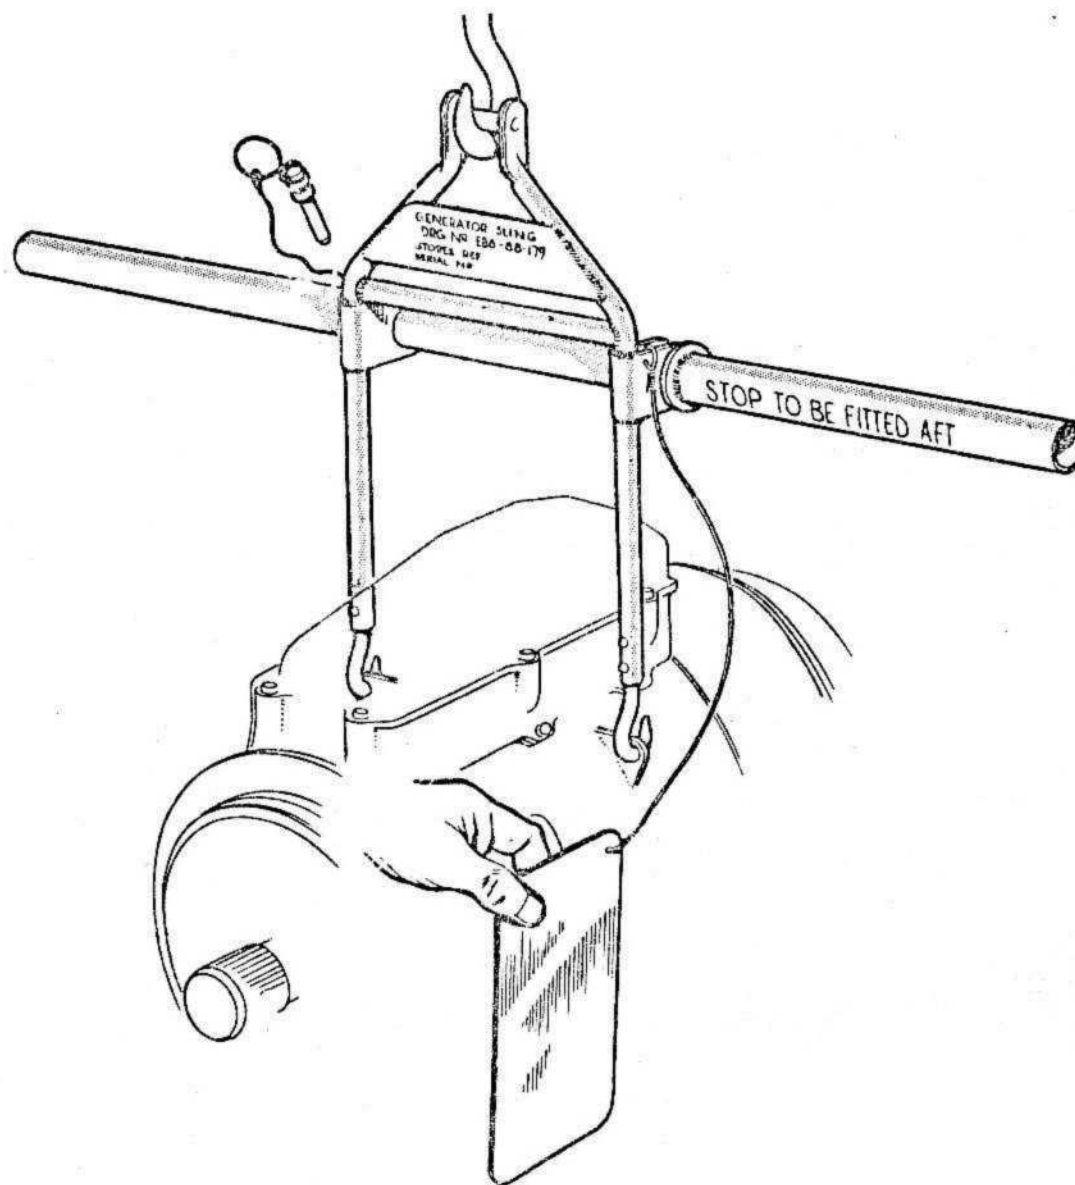

Fig.13 Generator sling
(6) Attach the hooks of the generator sling (*fig. 13*) to the generator slinging eyes (6).
(7) Remove the undersurface access panel, release the manacle clamp (7) and lift the generator clear of the wing.
(8) Should difficulty be experienced when removing the starboard generator, it may prove advantageous to first remove the cooling air manifold as follows:—